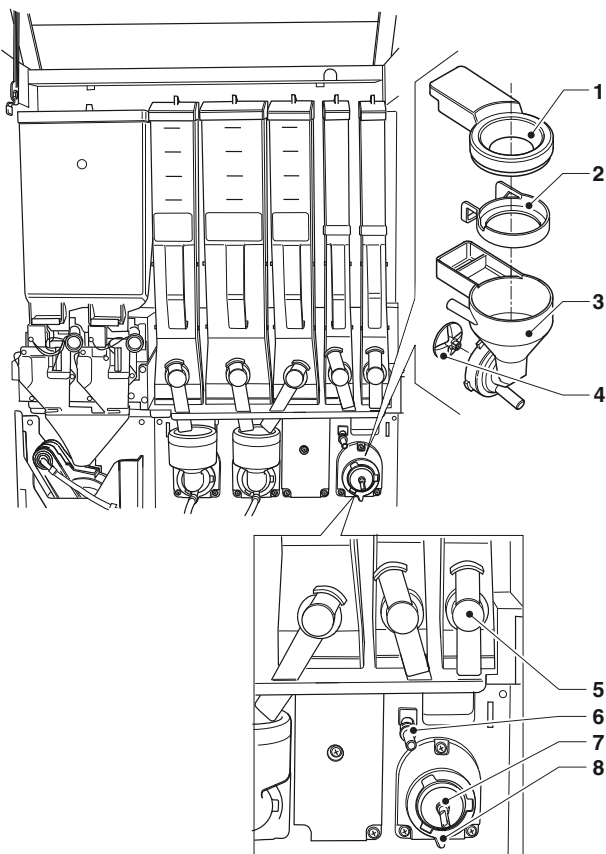

Fig. 28
- Remove (see fig. 28) the powder funnels, the water conveyors, the powder deposit funnels and the mixer motor fans from the mixers;
- the fans can be removed by simply pulling gently to free them (see Fig. 28);
By inserting the fan completely, the stuffing box seal will assume the correct position (see Fig. 28).